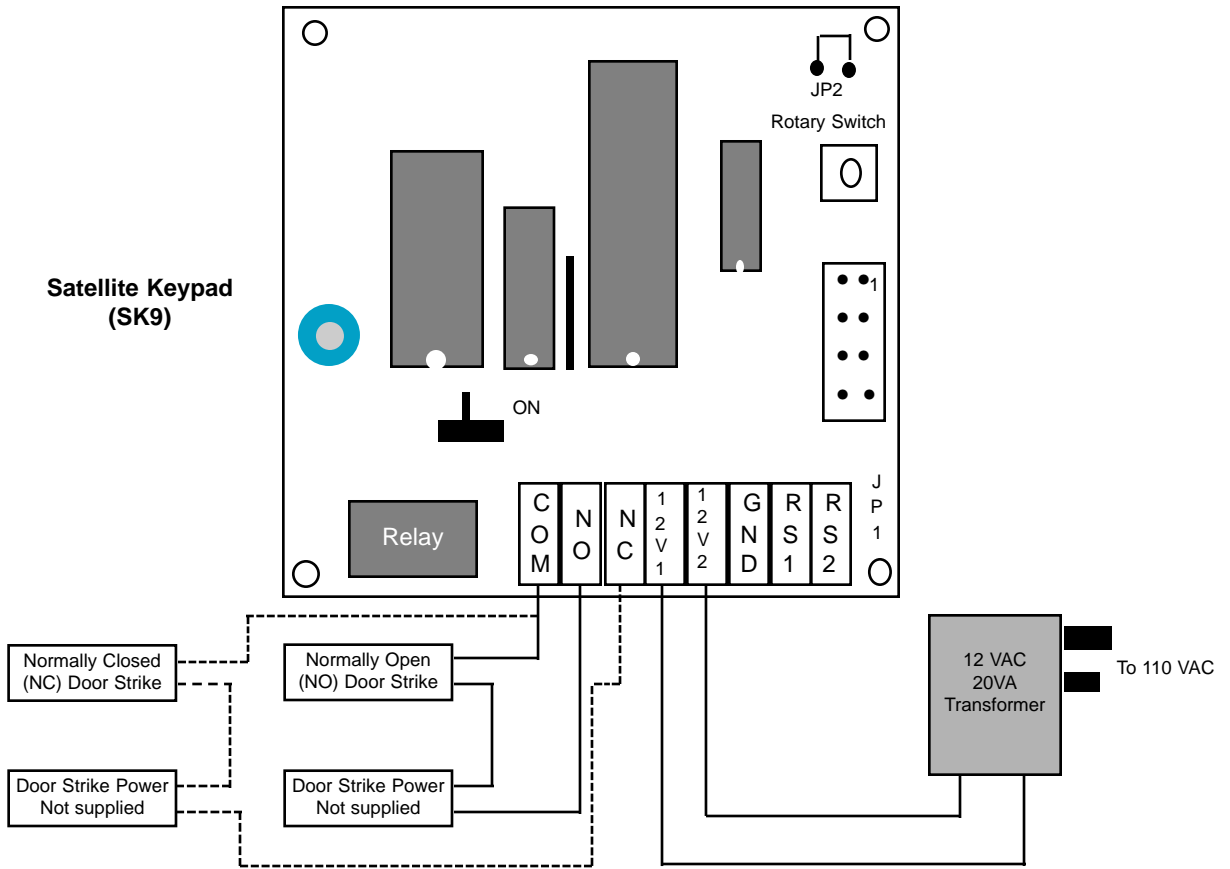

Figure 1.0
- See Fig. 1.0 for door strike wiring diagram for Normally Open (NO) or Normally Closed (NC). System's relay is dry contact and provides Normally Open (NO) and Normally Closed (NC).
1. Check the following: the transformer output must read 12.5 VAC - 12.8 VAC, power is connected to the correct terminal pins as shown on Fig. 1.0., the main power must read 110 VAC - 115 VAC.
1. Check the following: the transformer output is reading 12.5 VAC - 12.8 VAC, power is connected to the correct terminal pins as shown on Fig. 1.0., the main power must read 110 VAC - 115 VAC, Power switch must be ON.